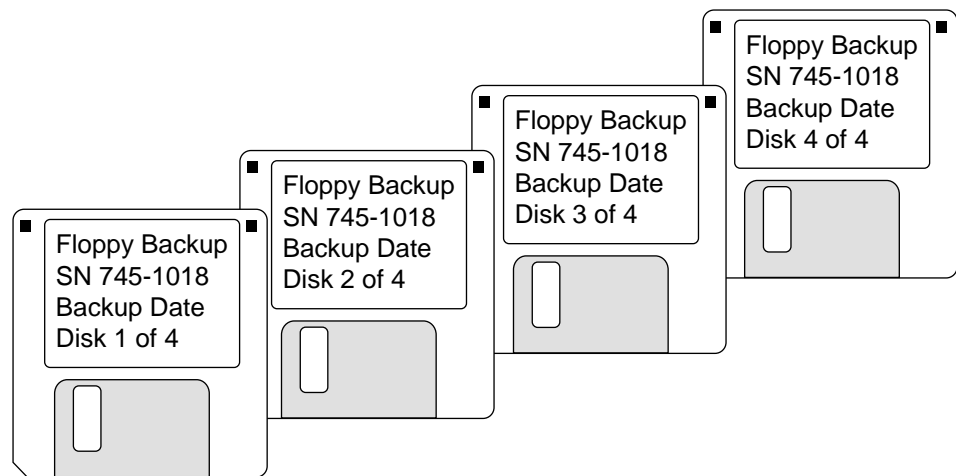

Figure 9.5: Set of Backup Floppy Disks with Labels
7. Label the floppy disks as shown in Figure 9.5.